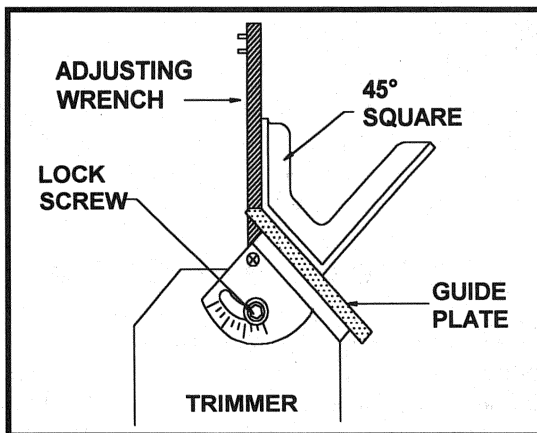

Fig. 2
1. Place the eccentric adjusting wrench into the trimmer collet (see Fig. 2), and tighten the collet nut to retain the wrench.
3. Use a 45° square to position the trimmer base at 45° to the adjusting wrench that is clamped in collet (see Fig. 2).